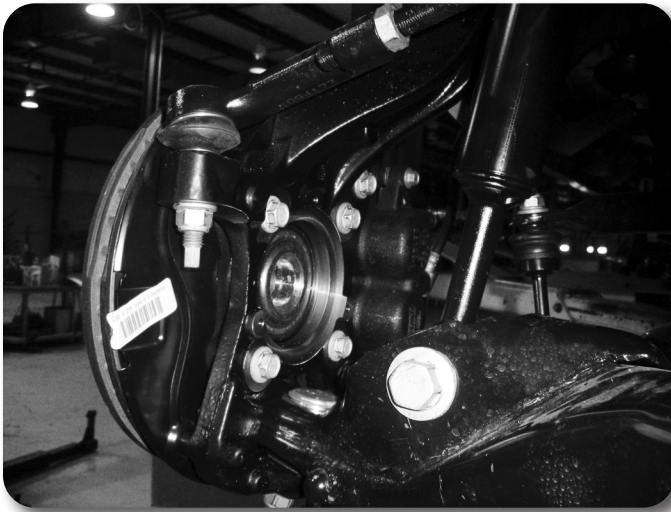

Figure 15
39. Install the brake rotor and caliper to the knuckle with factory bolts. Torque to 148 ft-lbs. **Figure 15**